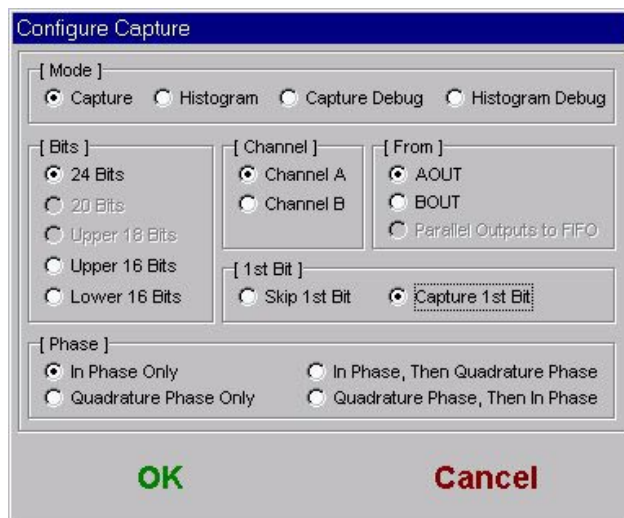

Figure 15 Capture Configuration Dialog, Serial Port
12. Click the right mouse button over the Capture software panel, select 'Configure Capture', then select the options shown in the 'Capture Configuration Dialog' (Figure 15).
4. Configure the Capture software as in Figure 15,